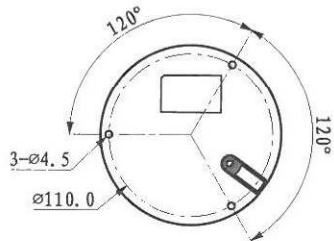

Figure 3-1
- Before the installation, please make sure the installation surface can sustain at least 3X weight of the bracket and the camera. The dome camera usually uses the ceiling installation. It can be installed on the ceiling or the wall. Please refer to Figure 3-1 for installation hole site.